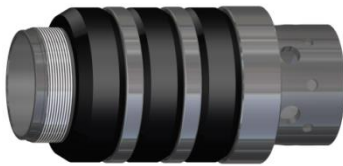

Fig. 9
K-9.1) Stand rubber mandrel (11) on end with threads facing upwards. Install rubber retainer (15), elements (13, 14), and rubber spacers (12) onto rubber mandrel (11) (Fig. 9).